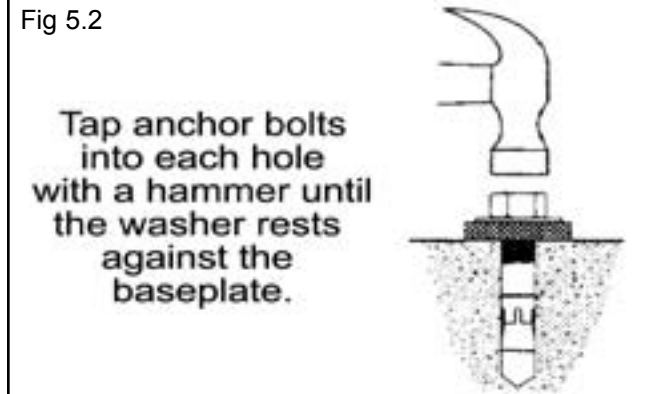

Fig 5.2
4. Assemble the washers and nuts on the anchors then tap into each hole with a hammer until the washer rests against the Base Plate. Be sure that if shimming is required that enough threads are left exposed. (See Fig. 5.2)